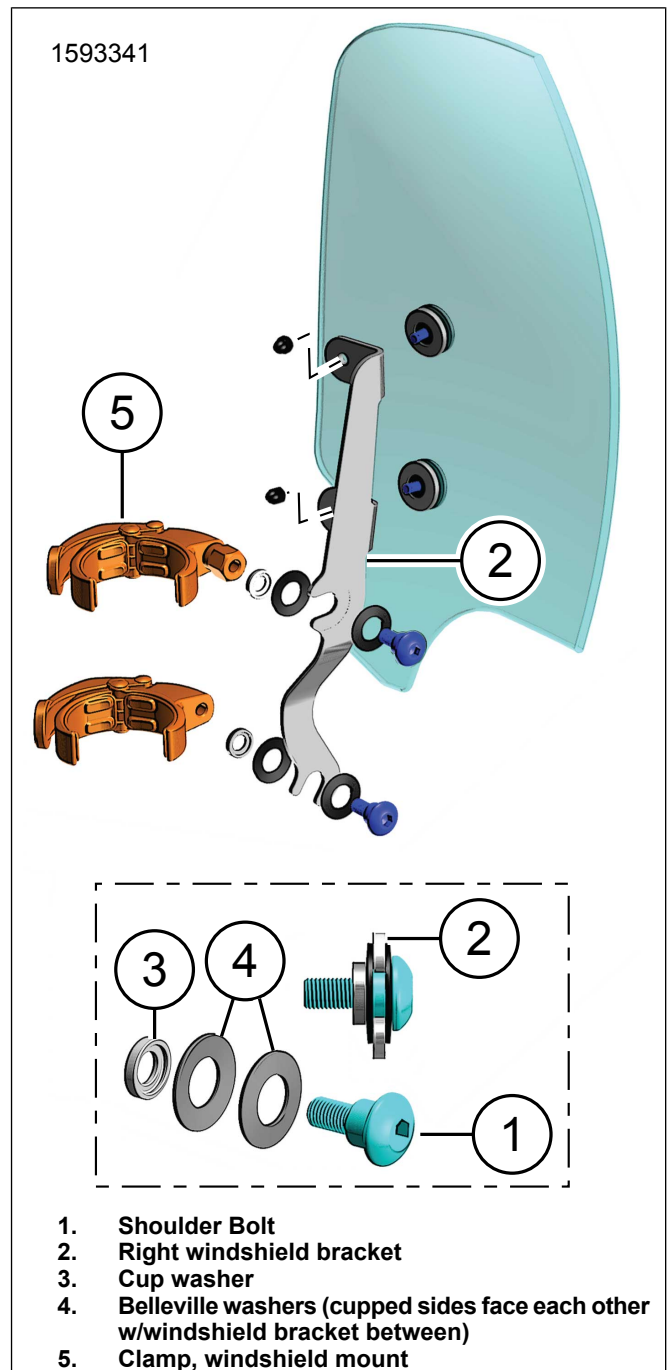

Figure 3. Windshield Mounting Clamps
2. Figure 3 Remove both clamp (5) and hardware kits from packaging.